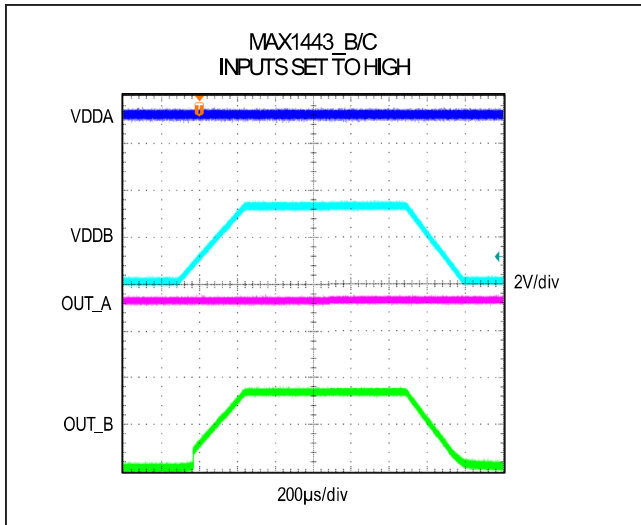
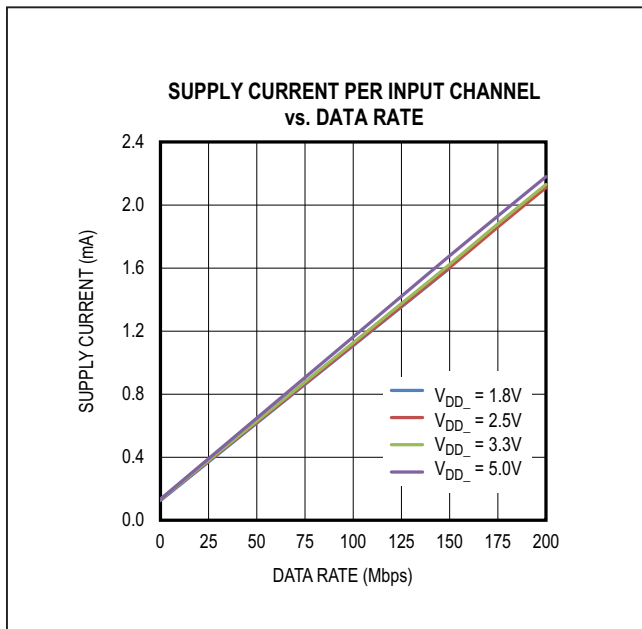
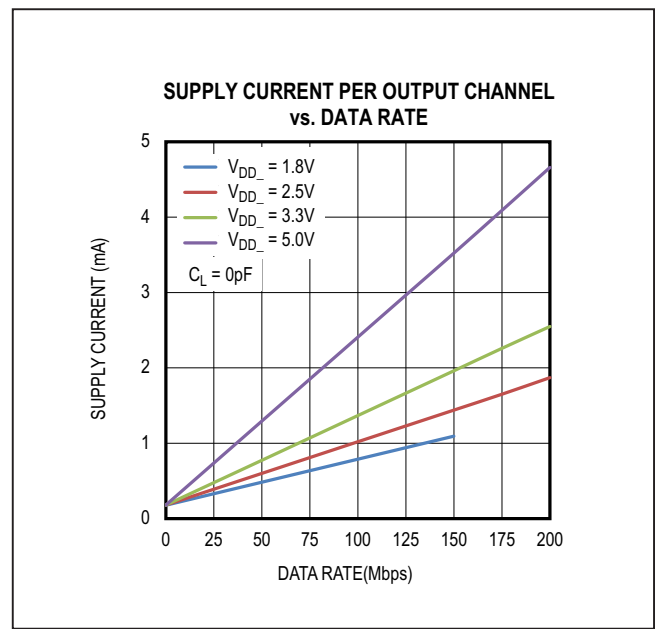

Figure 5. Undervoltage Lockout Behavior (MAX1443_B/C High)
Figure 9. Supply Current Per Input Channel (Estimated)
Figure 10. Supply Current Per Output Channel (Estimated)
condition is detected on either supply while the outputs are enabled, all outputs go to their default states regardless of the state of the inputs (Table 4). Figure 5 through Figure 9 show the behavior of the outputs during power-up and power-down.
The required current for a given supply (V_{DDA} or V_{DDB}) can be estimated by summing the current required for each channel. The supply current for a channel depends on whether the channel is an input or an output, the channel's data rate, and the capacitive or resistive load if it is an output. The typical current for an input or output at any data rate can be estimated from the graphs in Figure 9 and Figure 10. Please note the data in Figure 9 and Figure 10 are extrapolated from the supply current measurements in a typical operating condition.
The total current for a single channel is the sum of the “no load” current (shown in Figure 9 and Figure 10) which is a function of Voltage and Data Rate, and the “load current,” which depends on the type of load. Current into a capacitive load is a function of the load capacitance, the switching frequency, and the supply voltage.
- Channel 1 is an input channel operating at 2.5V and 20Mbps, consuming 0.33mA, estimated from Figure 9.
- Channel 2 and 3 are input channels operating at 2.5V with DC signal, consuming 0.13mA, estimated from Figure 9.
- Channel 4 is an output channel operating at 2.5V and 100Mbps, consuming 1.02mA, estimated from Figure 10.
- Channel 1 is an output channel operating at 3.3V and 20Mbps, consuming 0.42mA, estimated from Figure 10.
- Channel 2 and 3 are output channels operating at 3.3V with DC signal, consuming 0.18mA, estimated from Figure 10.
- Channel 4 is an input channel operating at 3.3V and 100Mbps, consuming 1.13mA, estimated from Figure 9.